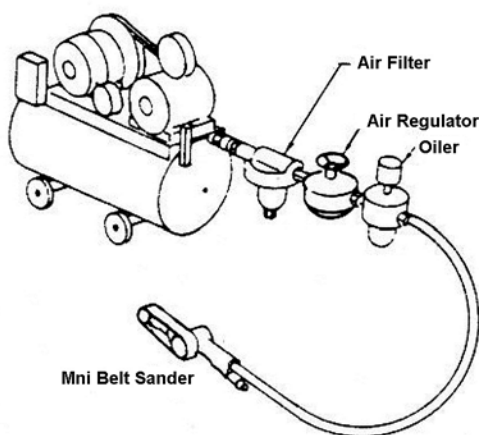

Figure 1
3. To avoid moisture damage to the sander, use an inline filter to trap moisture and an inline oiler to keep the sander running at top efficiency. These are placed inline between the compressor and the sander. See Figure 1.